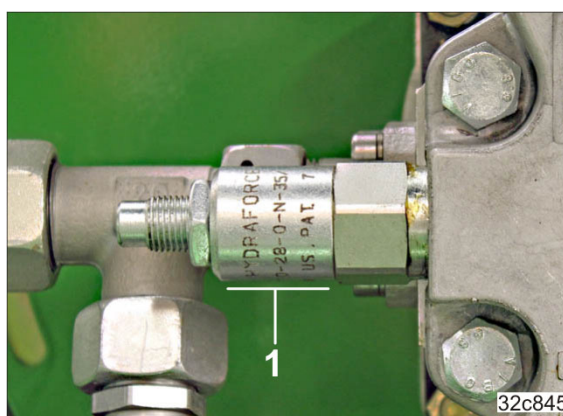

Fig. 162
- 2.1 Pressure relief valve with round outer contour (Fig. 162/1)